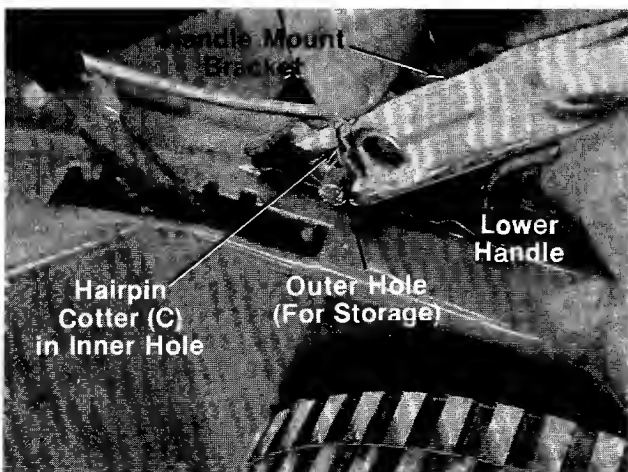

FIGURE 3.
4. Place lower handle in position over weld pins in handle mount brackets on deck. Make certain the instruction label on the lower handle can be read from the operating position. Secure by placing two hairpin cotters (I) in inner hole on weld pins. The inner hole is for operation. The outer hole is for storage. See figure 3.